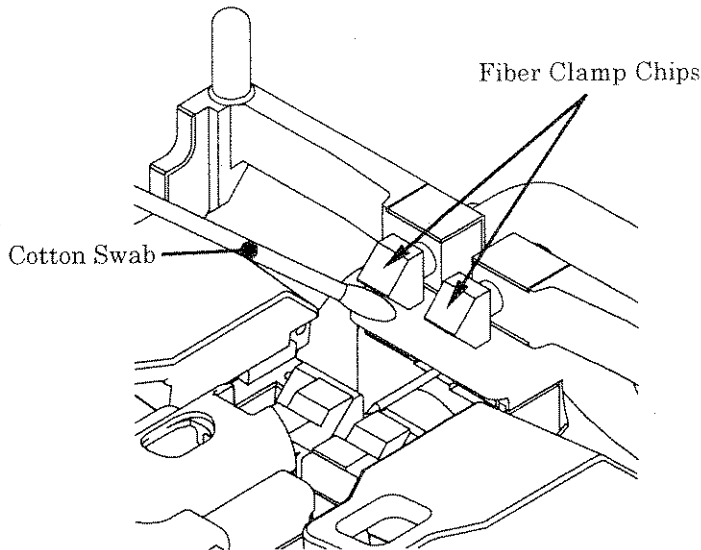

Fig. 5-3. Cleaning Fiber Clamp Chips
- (1) Lift up the fiber clamps.
- (2) Clean the surface of the chip clamp with an alcohol-impregnated thin cotton swab as shown in Fig. 5-3. Remove excess alcohol from the clip clamp with a clean dry swab.